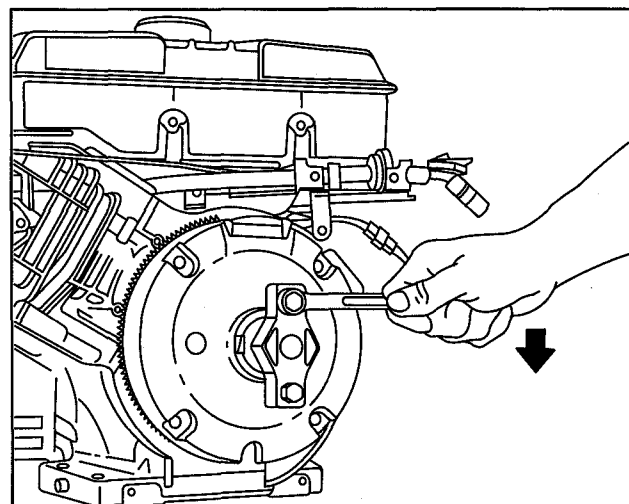

Fig. 18
Tighten puller nuts (5) or screws equally until flywheel loosens, Fig. 18.